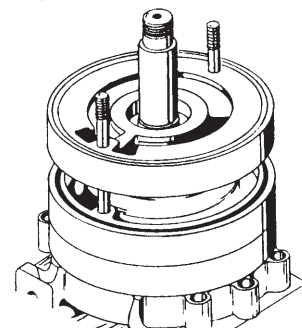

Figure 4-8
11. Slide another left hand channel ring (#10B) into place with the water channel facing up.(refer to figure 4-8) This time, however, place the large inlet opening in the